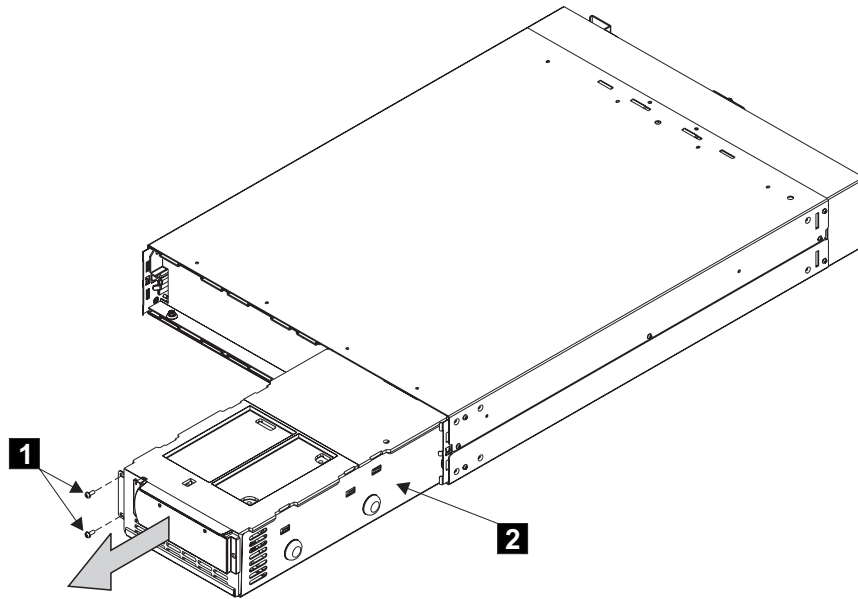

Figure 146. Removing the 2145 UPS electronics assembly
- a. Remove the two screws **1** (see Figure 146).